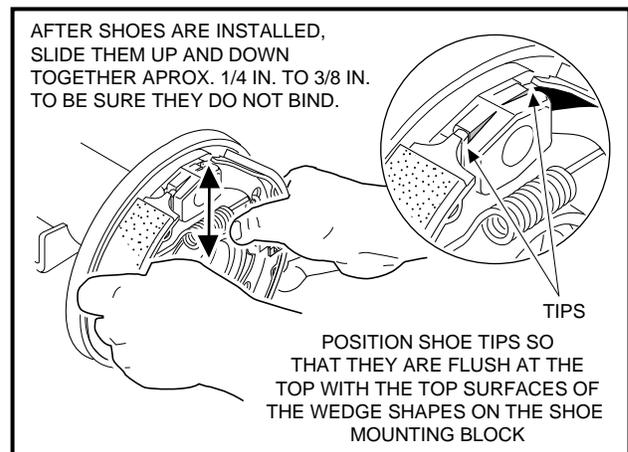

Figure 6-16 Check Shoe Positions
5. After the shoes are installed, move them together up and down and side to side to make sure that they will easily slide approximately 1/4 in. to 3/8 in. (6.3 to 9.5 mm) without binding. Make sure that the shoes are positioned vertically so that the tips of the shoes are positioned flush at the top with the top surfaces of the wedge shapes on the shoe mounting blocks as shown (**Figure 6-16, Page 6-7**).